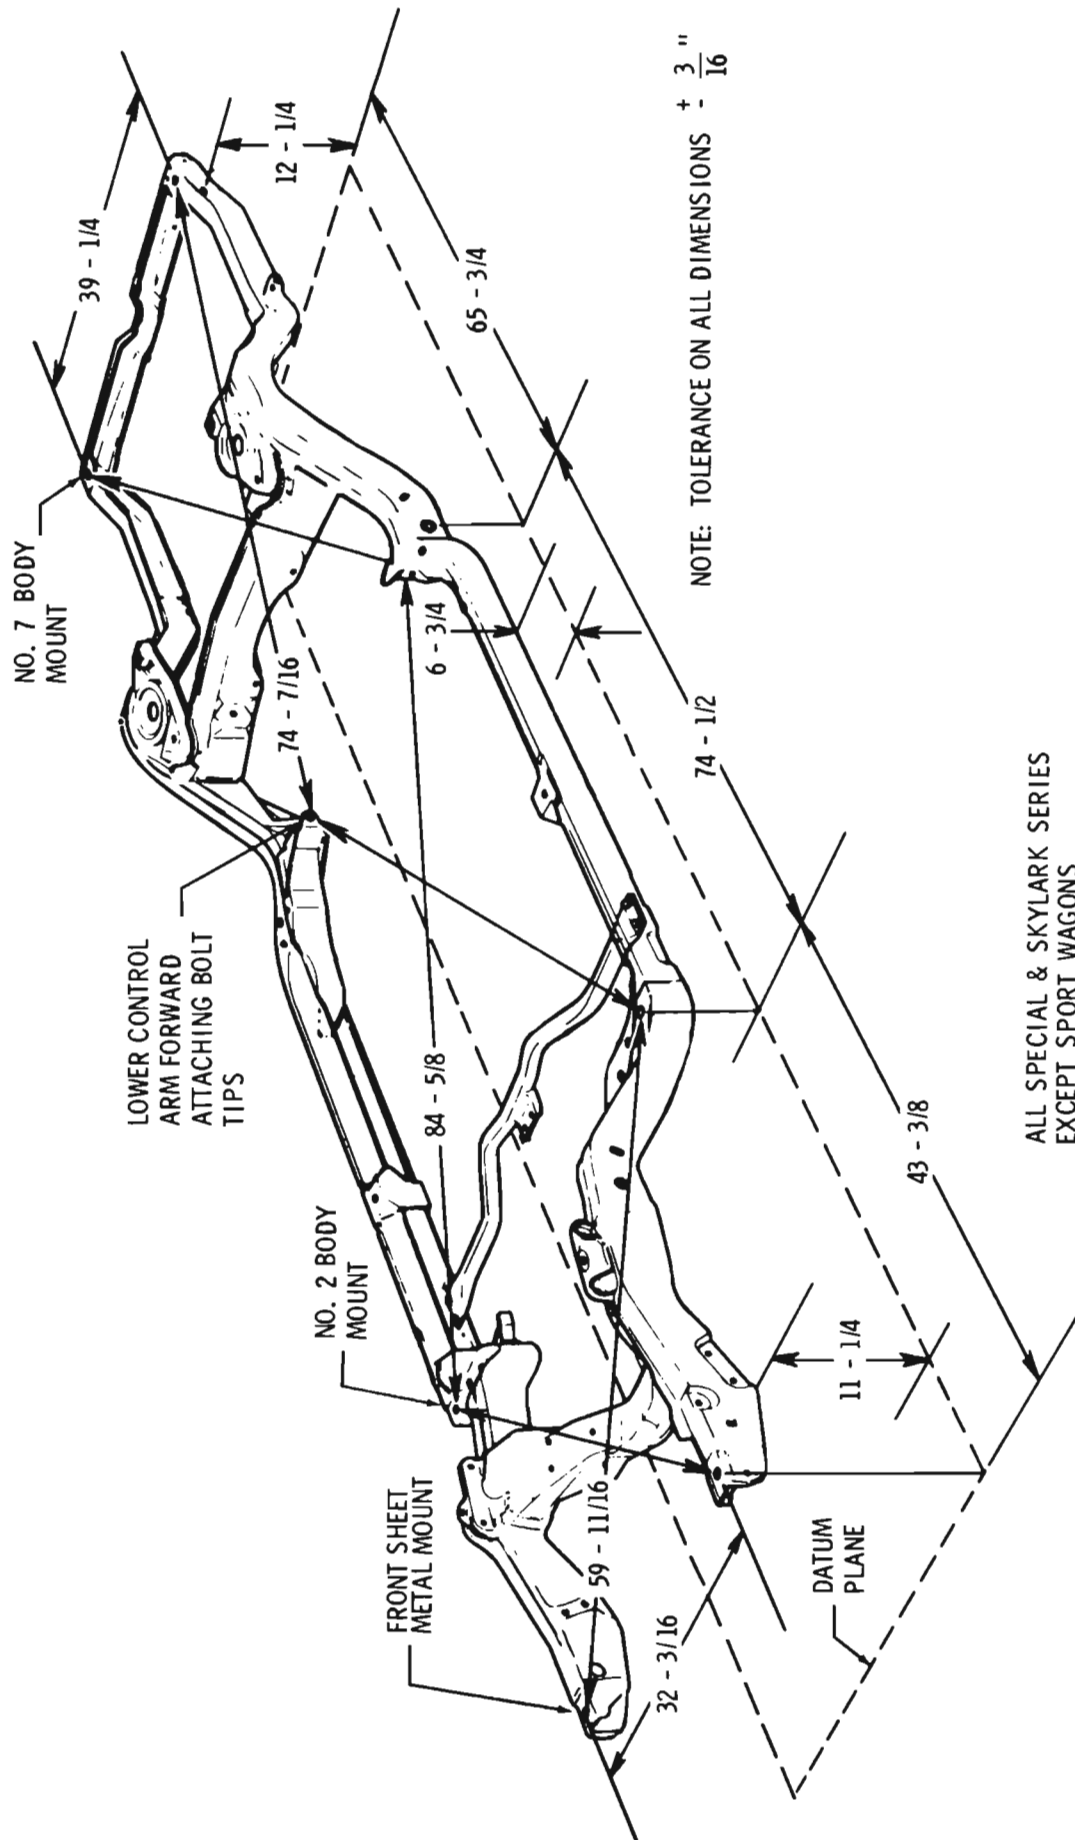

Figure 12-26—All Special and Skylark Series - Except Extended Wagons
4. To determine the extent of frame damage, measure car using frame layouts shown in Figures 12-26 and 12-27 which indicate reference points, dimensions, and tolerances. In addition to body bolt locations, frame layouts